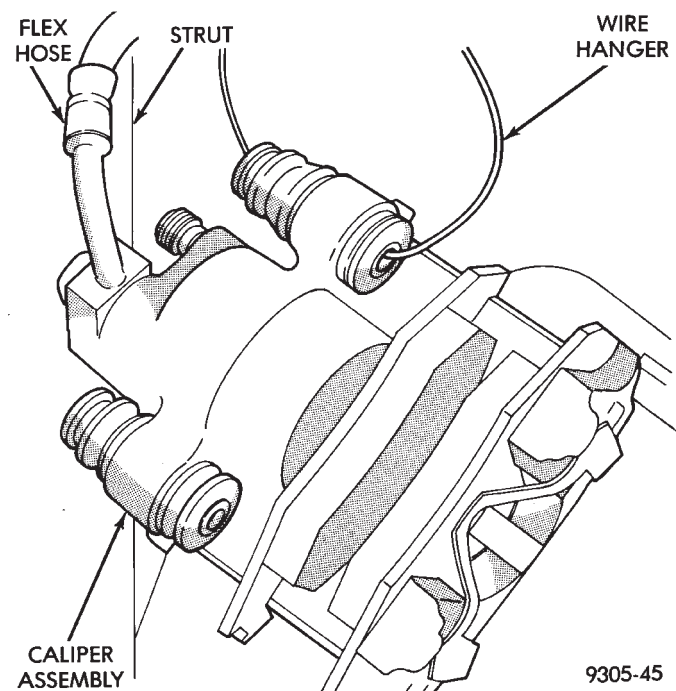

Fig. 48 Storing Caliper
(5) Support caliper assembly firmly from rear strut to prevent weight of caliper from damaging the flexible brake hose (Fig. 48).